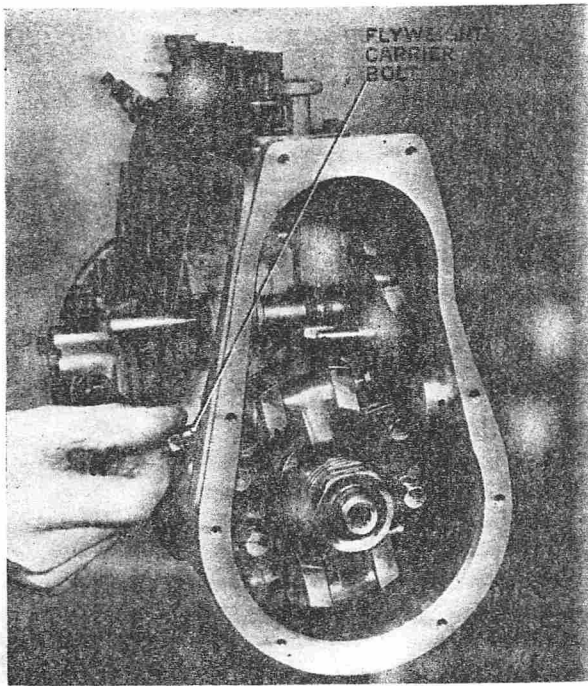

FIG. 52. REMOVING FLYWEIGHT CARRIER BOLT
6. Remove the flyweight carrier bolts and withdraw the flyweights (Fig. 52).
7. Remove the four setscrews securing bracket (Fig. 52) to the driving centre and remove the bracket and sleeve.